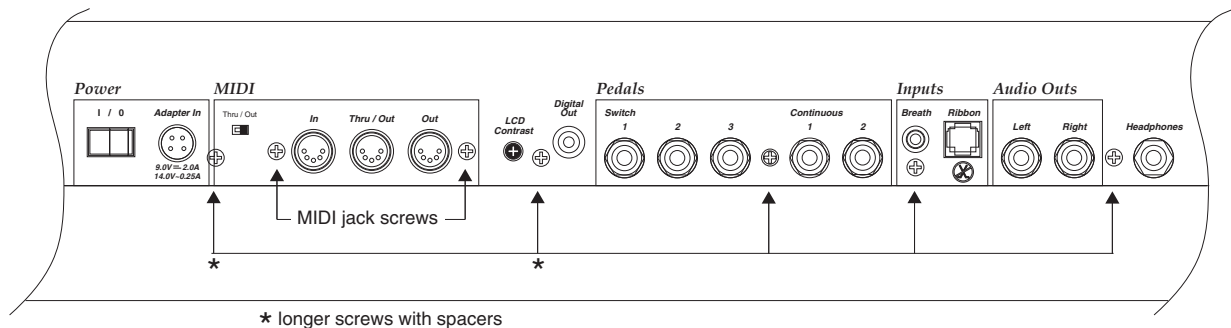

Figure 4-7 Rear panel hardware locations
- Remove the five screws that secure the Connector Board to the rear panel. Two of these screws are longer than the others and have spacers located between the screw and the rear panel. See Figure 4-7 for the locations of the screws and spacers.
- Remove the two screws that secure the MIDI jacks to the rear panel. See Figure 4-7.
2. Install the two screws that secure the MIDI jacks to the rear panel. See Figure 4-7.
3. Install the five screws that secure the Connector Board to the rear panel. Be sure to place a spacer and use one of the longer screws at the locations noted in Figure 4-7.